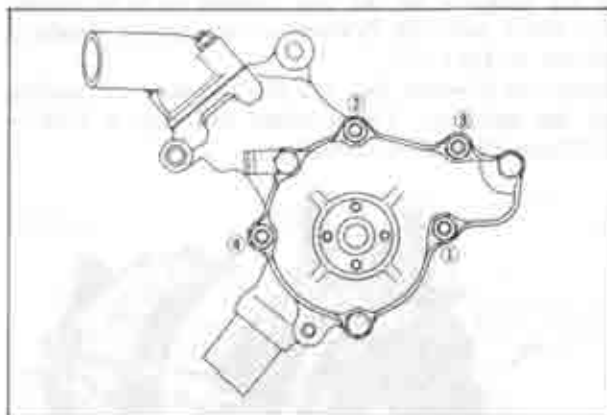

Fig. 1-90 Tightening order of water pump
2. Place the gaskets and water pump on the front housing, and tighten the attaching nuts evenly to 1.8 ~ 2.7 m·kg (13 ~ 20 ft·lb) in the sequence shown in Fig. 1-90.